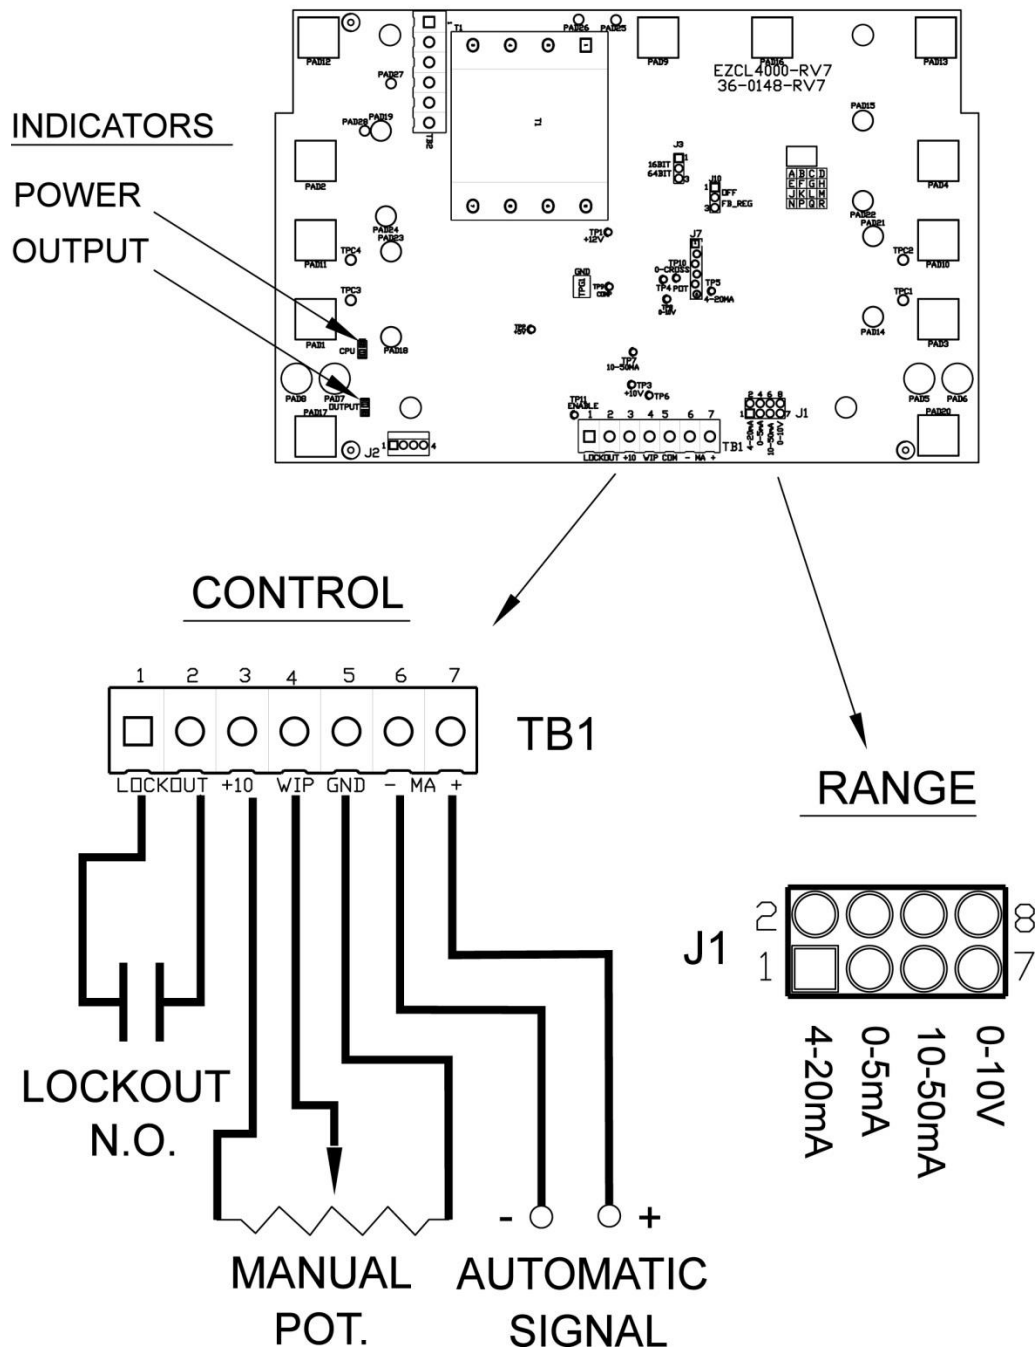

Figure 2
3. Check “J1” plug for correct position to match your automatic control signal. The unit is shipped with the jumper in the 4-20 mA position. See figure 2 or 3, depending on your unit.